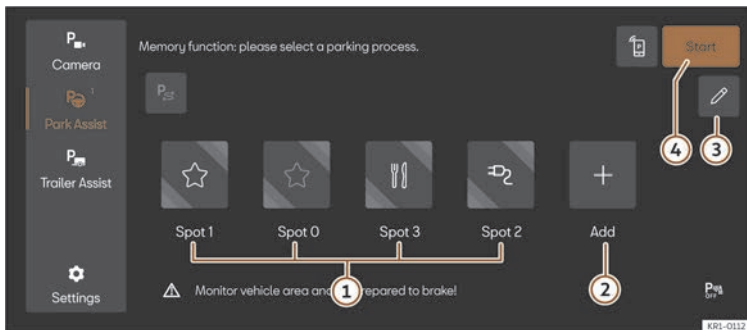

Fig. 157 Schematic representation: Parking system menu with memory function.
4. Select the function button, assign the symbol you want (>>> **Fig. 157** ) and confirm it.
2. If necessary, click on the parking space available icon in the Parking System menu >>> **Fig. 157** ①. The function button will be displayed in copper.
3. Press the **Start** button >>> **Fig. 157** ④.